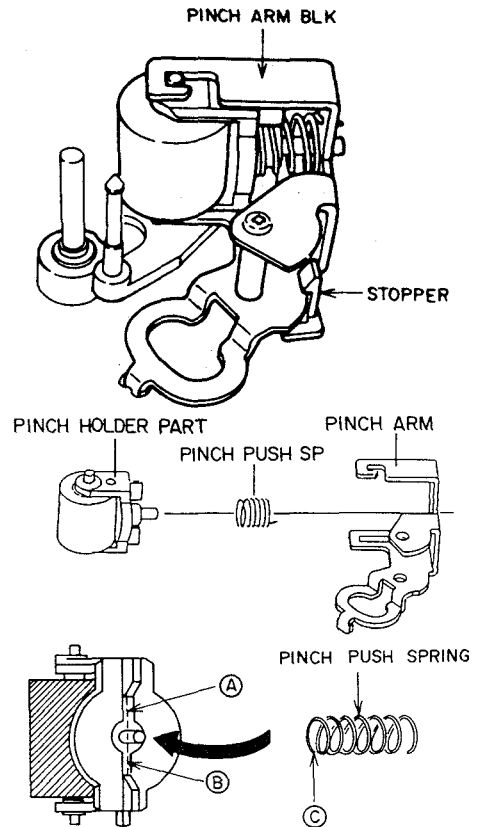

Fig. 3-8
- 1) Release the stopper of the PINCH ARM and remove the PINCH ARM BLK as shown in Fig 3-8.